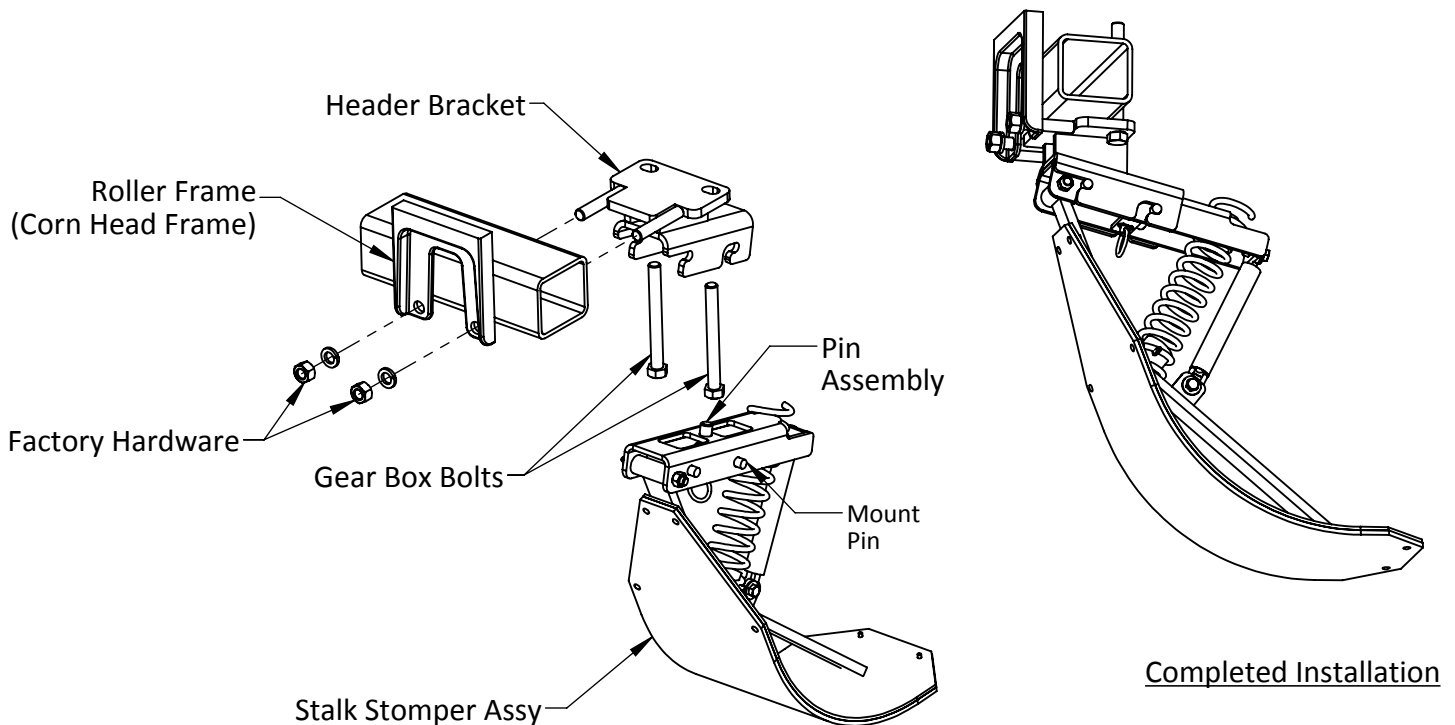

Figure 1
- Remove the gear box bolts and the eye bolts which secure the row unit to the main frame of the corn head. Replace the eyebolts with Header Bracket (43010) by inserting the threaded rods thru the roller frame mount. Insert the gear box bolts thru the header bracket into the gearbox and tighten to factory recommended torque specifications. Secure the threaded rods reusing the factory hardware and tighten to factory recommended torque specifications (Fig. 1).